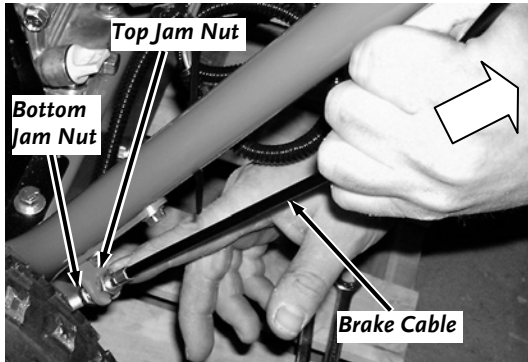

Figure 15
21. Pull up on the Brake Cable until you just feel resistance and the Brake Band is just touching all around the Brake Drum and turn the top Jam Nut down against the Bracket (**Figure 15**).